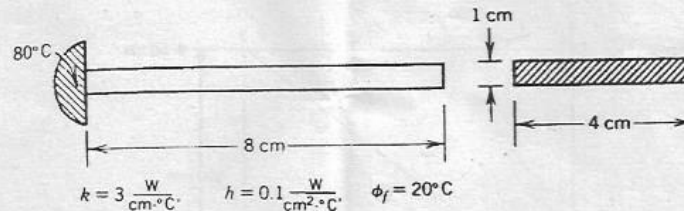

Fig. 15 (a)
15. (a) Calculate the temperature distribution in a one-dimensional fin with the physical properties given in Fig. 15 (a). The fin is rectangular in shape, and is 8 cm long, 4 cm wide, and 1 cm thick. Assume that convection heat loss occurs from the end of the fin. (13)